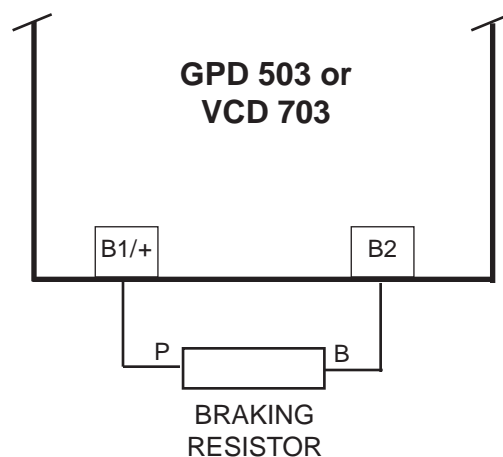

Figure 3. Lead Connections For Braking Resistor (Heat Sink Mounted)
7. Connect leads from the braking resistor to drive terminals according to Figure 3.